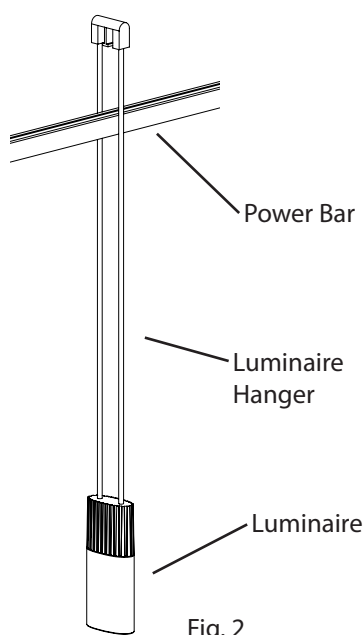
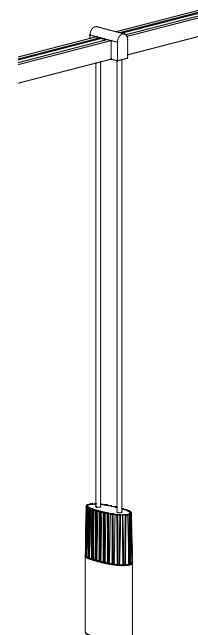

Fig. 2
Fig. 3
1. Align **Hanger** with **Power Bars** (Fig. 2) and press down firmly on the top (or bottom) of the Power Bar, while pressing up (or down) on the bottom of the Hanger, until the Power Bar clicks into place (Fig. 3).
1. Place the **Luminaire Hanger** over the **Power Bar** (Fig. 2).
2. Press down firmly on the top of the **Luminaire Hanger**, while pressing up on the bottom of the **Power Bar**, until the Luminaire Hanger clicks into place (Fig 3).
3. To remove, tip the **Parallel Luminaire Hanger** in the direction of the **Power Bar** to release the **Snap Hooks**, then pull the Parallel Luminaire Hanger off the Power Bar (Fig. 3).